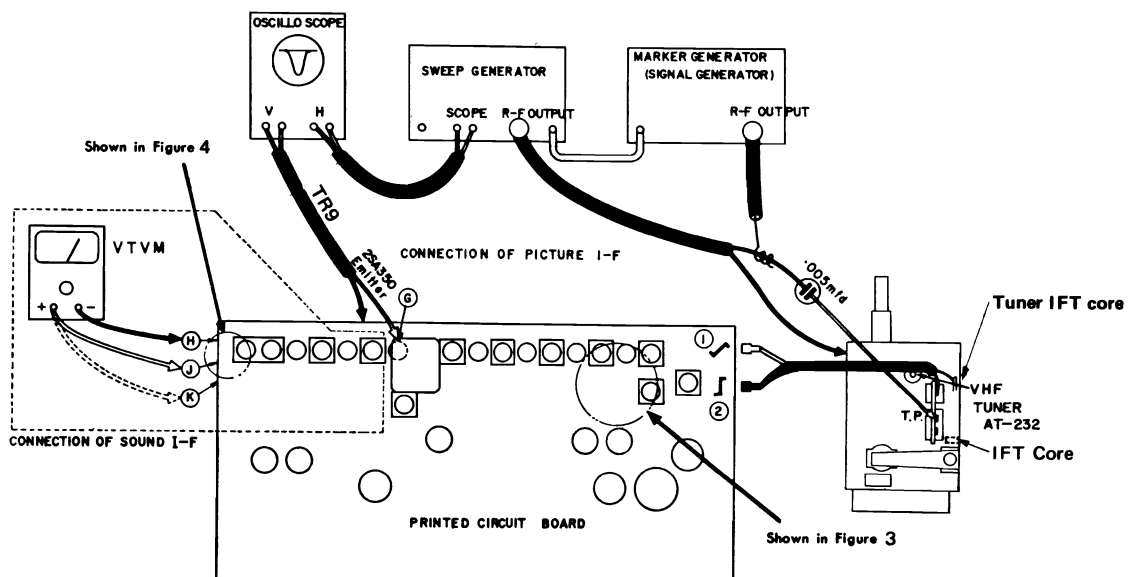

Figure 2 CONNECTION OF IF ALIGNMENT
6. Connect the input of the oscilloscope to test point ⑤ (Fig. 2).
7. Adjust the variable resistor specified in step 3 to obtain .5V on the VTVM, between test point ⑥ and point ⑦.